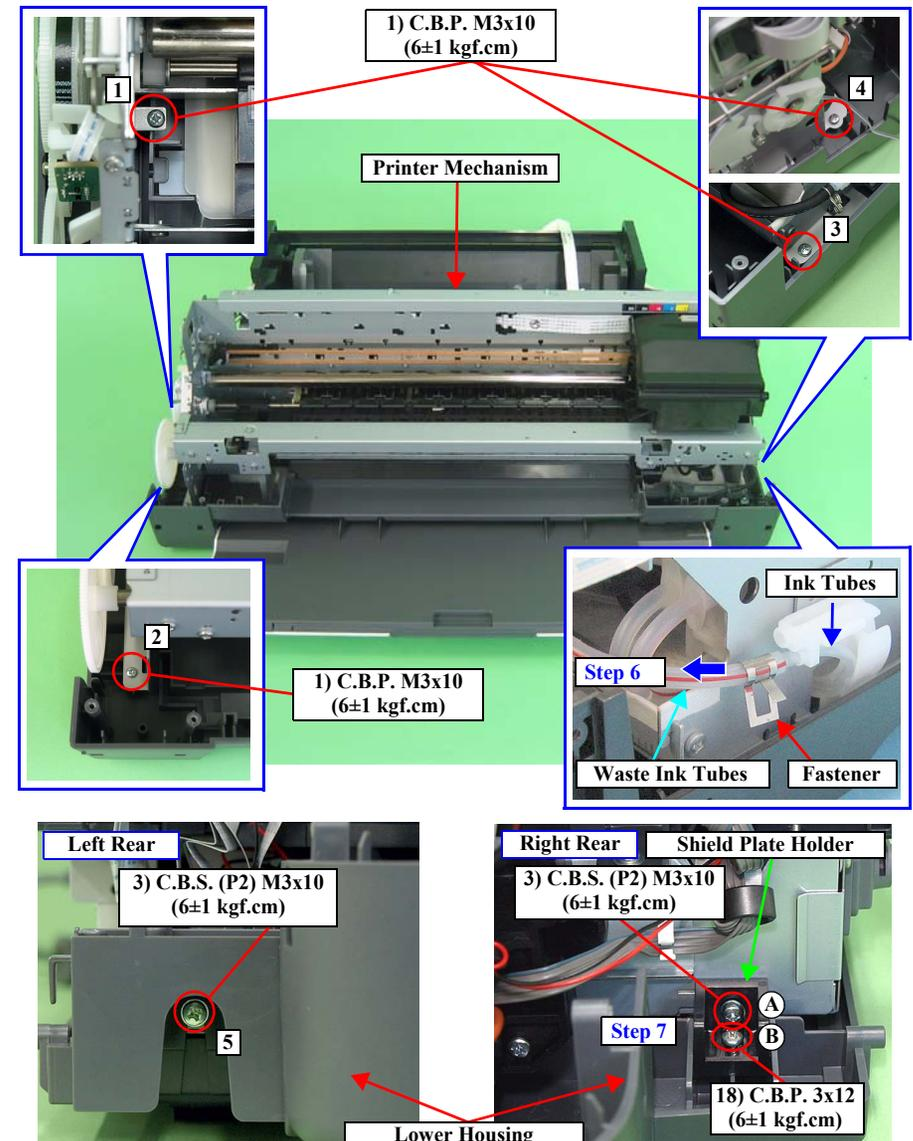

Figure 3-53. Screws that Secure the Printer Mechanism
- Install the Printer Mechanism to the Lower Housing as follows. (refer to Figure 3-53)
2. Place the Printer Mechanism on the Lower Housing and secure the Shield Plate Holder and the Printer Mechanism with the screw (A).
4. Secure the Printer Mechanism and Lower Housing with screws (x5). (Tighten the screws in the order shown in Figure 3-53)